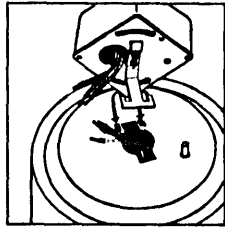

Fig. 2
- Attach the twist-lock hinge cover plate directly to junction box as shown in Fig. 2 using flat head screws provided in hardware bag.